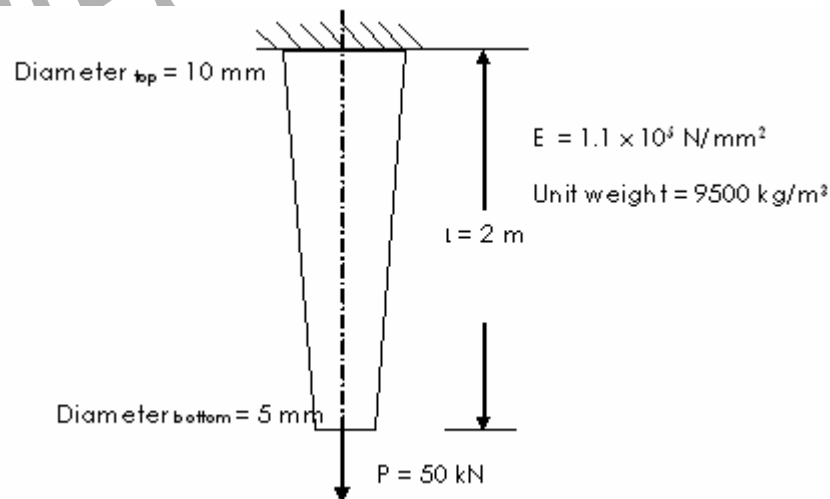

Figure: 1
3. A uniformly tapering rod is shown in Figure 1. Determine the elongation of the rod and the reaction developed at the fixed end when the rod is subjected to self-weight and given loading. [16]